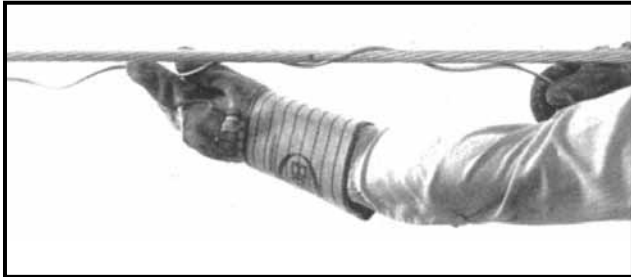

Figure 3
2.03 Apply all remaining reinforcing rods around the cable. When most of the rods are applied and most gaps are closed, the remaining rods will push between rods already applied to assure a strong, armored reinforcement (Figure 3). **MAKE SURE THAT NO RODS ARE CROSSED AND THAT ALL RODS ARE EVENLY SPACED.**